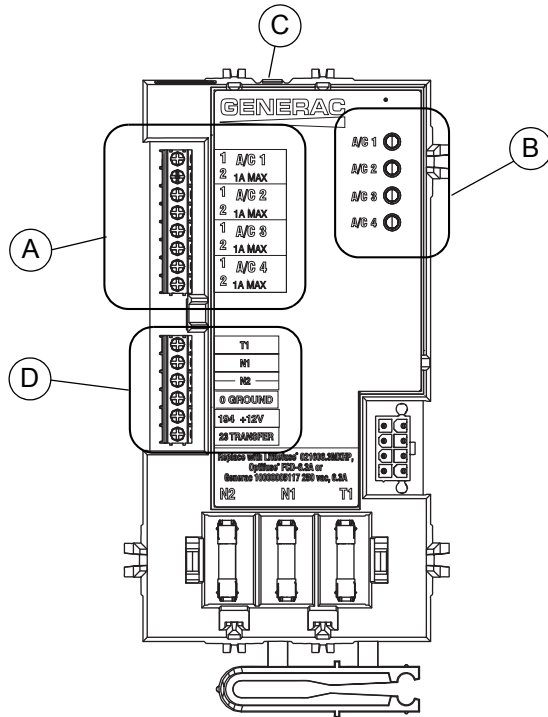

Figure 2-2. Smart A/C Module (SACM)
See **Figure 2-2**. Priorities A/C 1-4 (A) have connections for an air conditioner. To control an air conditioner, no additional equipment is required. Internal normally closed relays interrupt the 24 VAC thermostat control signal to disable the air conditioner load.
See Figure 2-2. The SACM has a test button (C) used to simulate an overload condition. This button operates even when the transfer signal is inactive. The Generator Control Wiring is connected to terminals (D).